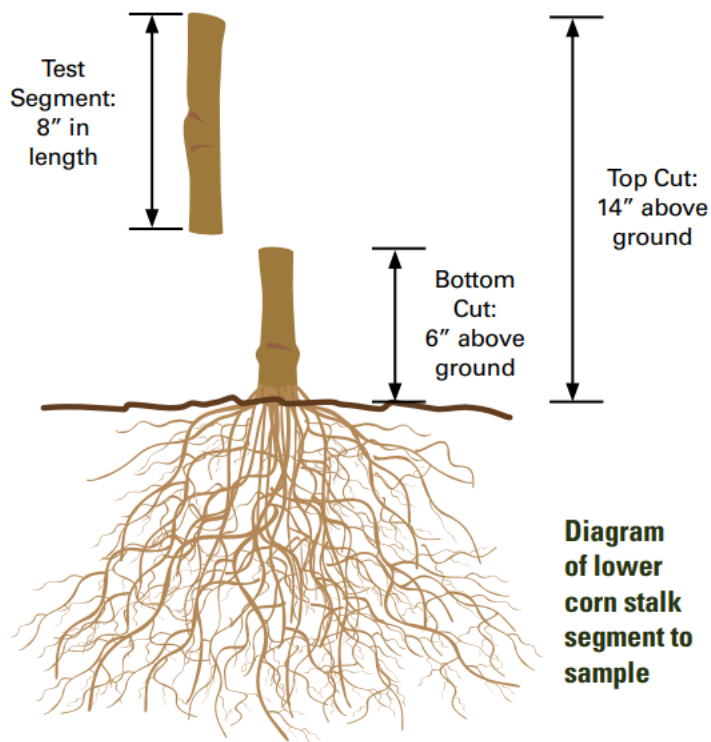

Figure 1. Diagram of lower corn stalk segment to sample (Sawyer and Mallarino, 2018)
- **How to Sample:** For each of the 15 plants, cut the stalk 14” above the soil surface, and 6” above the soil surface (Fig. 1). This will provide you with one 8” stalk section. Remove leaves and sheaths from the section and ensure the stalk section is free of soil contamination and collected consistently.